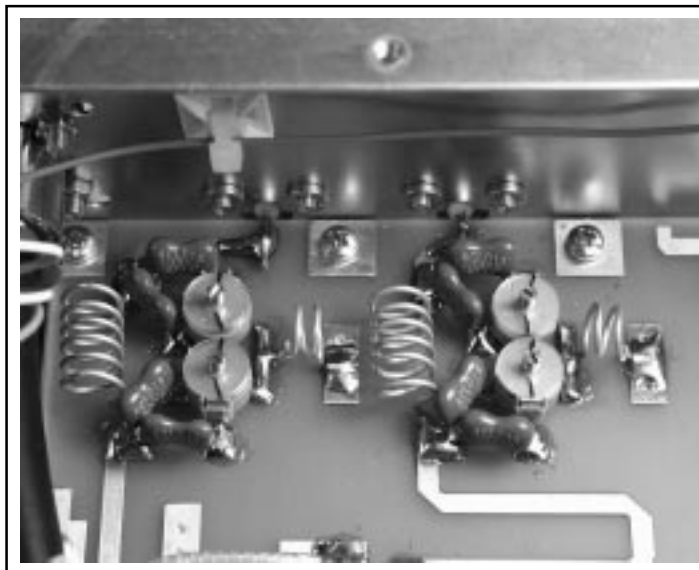

Figure 3
- 4) Set the variable capacitor in their middle position (Figure 3)